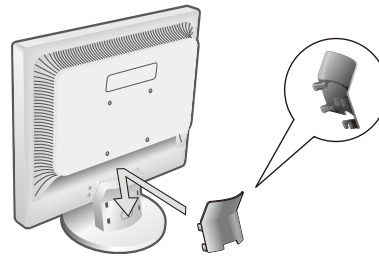

Figure C.1
4. Connect one end of the power cord to the monitor and the other end to the power outlet. Place the Video Signal Cable and power cord to the Cable holder (**Figure C.1**).